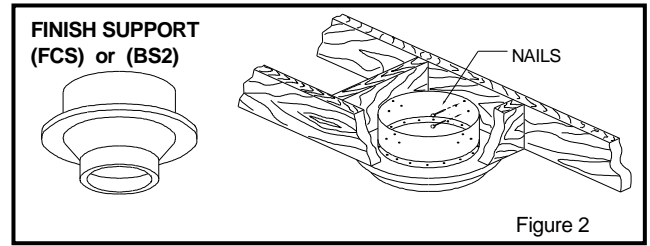

Figure 2
- 2 From below push the support into the framed hole. Nail the support to the framed box using (12) - 3" spiral nails (see Fig. 2)